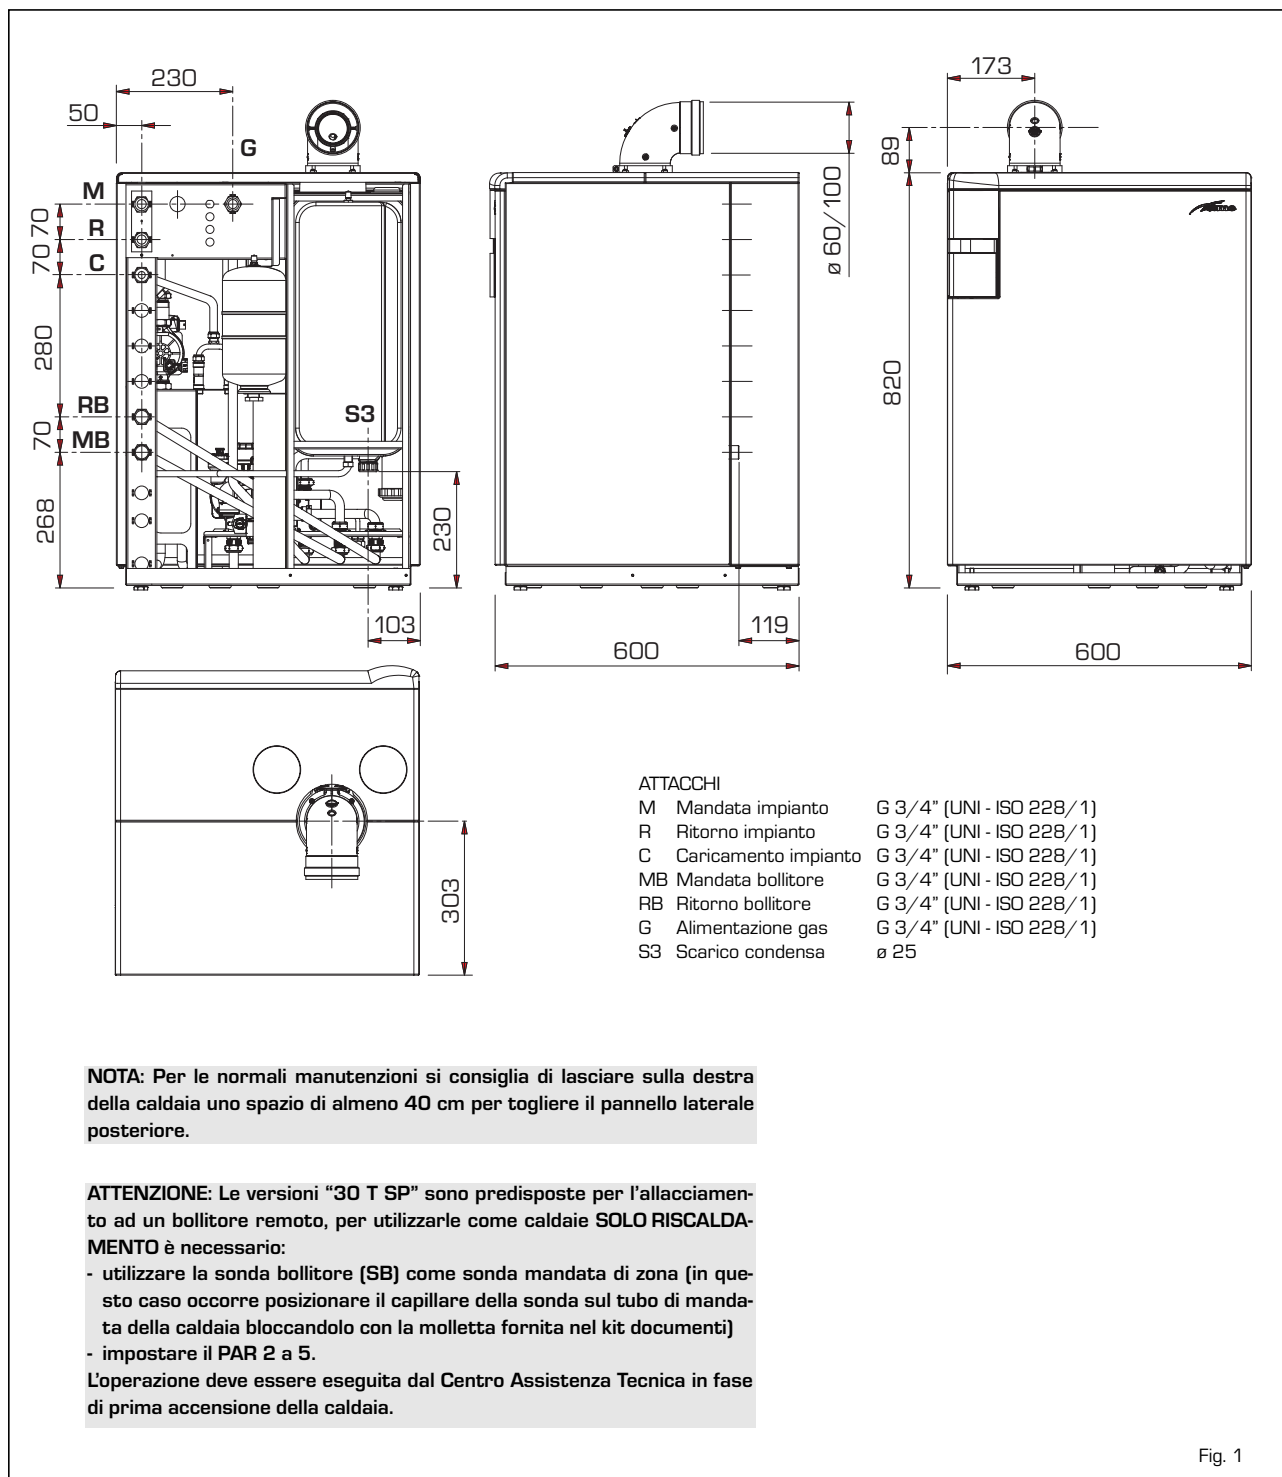

Fig. 1
1.2 DIMENSIONI D'INGOMBRO E ATTACCHI (fig. 1)